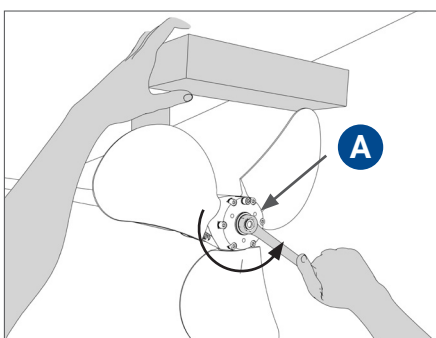
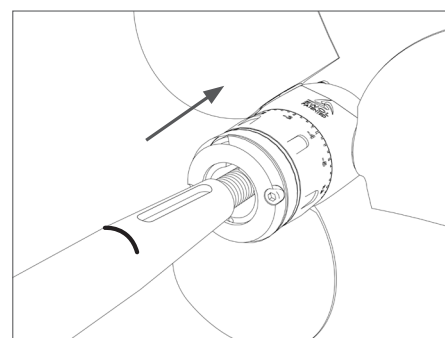

FIG. 10 | Unscrew the lock nut
FIG. 11 | Take off the propeller from the shaft
- Unscrew the lock nut **A** (**Fig. 10**) and take off the propeller (**Fig. 11**).